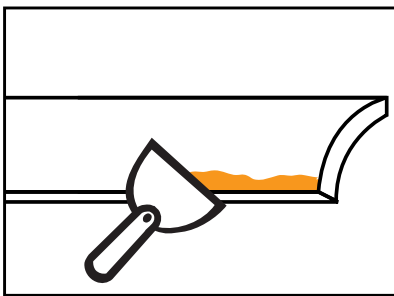

FIGURE 68 Butter Up
- > Spread a 10mm continuous bead of cement along both back edges and the mitred end of the cornice [Figure 68]